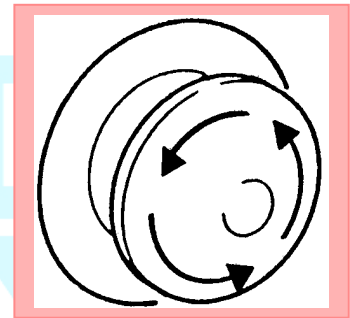

Fig. 1 EMERGENCY-STOP button
- Check that the Trailing Cable [#6 in Fig.1] winds and unwinds regularly from its container.